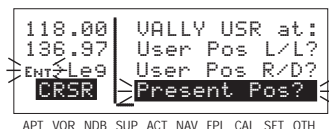

Figure 4-77
4. Move the cursor down to the fourth line, over **Present Pos?** (figure 4-77).